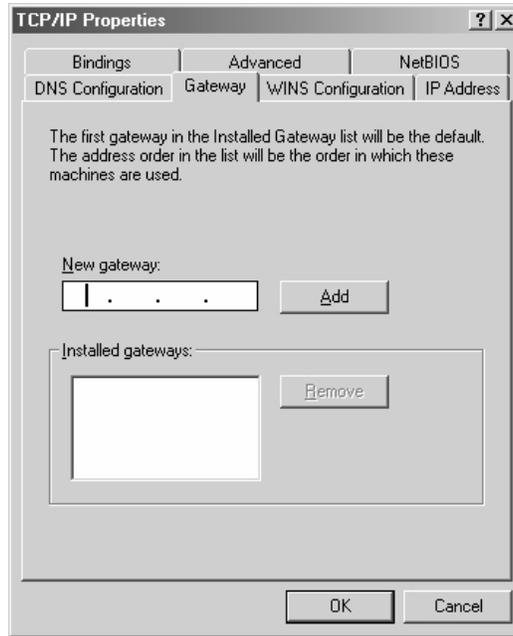

Figure 104: Gateway tab
5. Select the Gateway tab. Remove any installed gateways by selecting them and selecting **Remove**. See Figure 104.